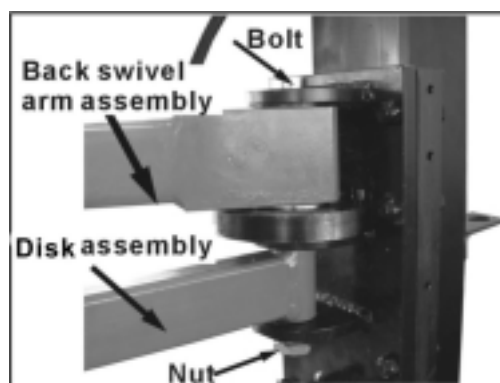
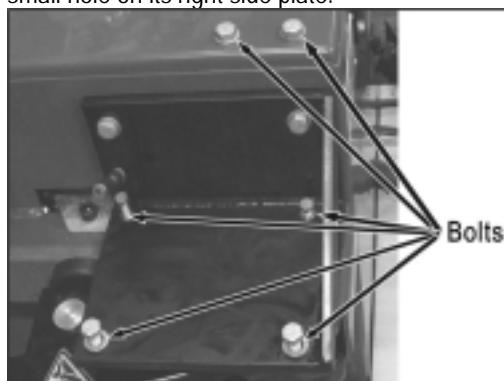

Fig.15
Fig.16
- Take out assembly of back swivel arm, post and lifting cylinder, remove the hood(fig.14). Then take out disk assembly and relevant fastening parts, apply lubricant on the fastening parts, assemble them as fig.15, finally mount the hood.
- Remove the bolts (fig.16) and washers on right side plate of cabin, place the unit (fig.15) on the seat vertically,